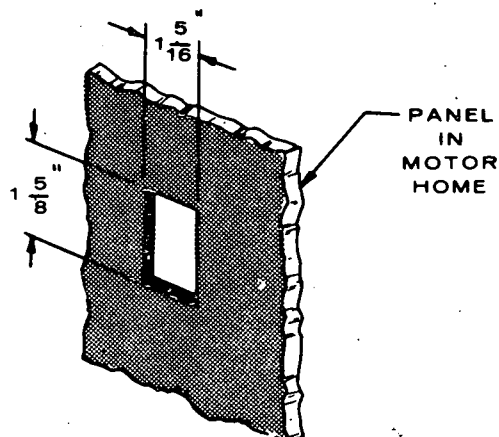

FIGURE 9. MOTOR HOME CUTOUT
1. Select switch location. Using Figure 9 as a guide, drill screw holes and cut holes in RV panel.